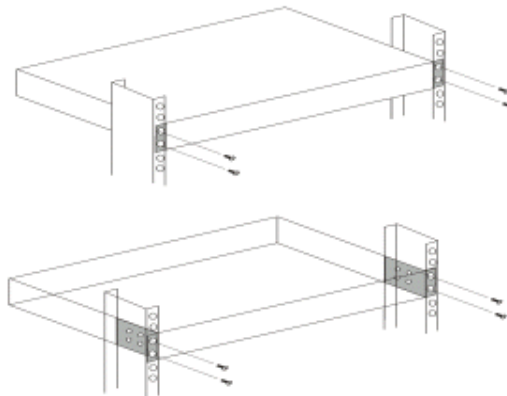

Figure 2-1. FOS-3128 Switch Rack-mounting
**Step 2.** Align the mounting holes in the brackets with the desired holes in the rack, and insert screws through each bracket and into the rack. (See Figure 2-1)